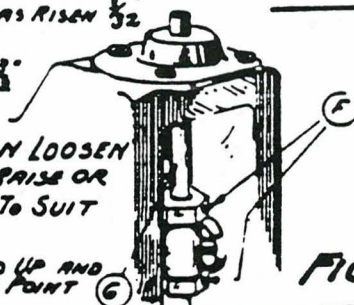

FIG. 7
TO ADJUST TO THIS DIMENSION LOOSEN THE SCREWS (F) IN FIG. 7 AND RAISE OR LOWER THE NEEDLE BAR (G) TO SUIT